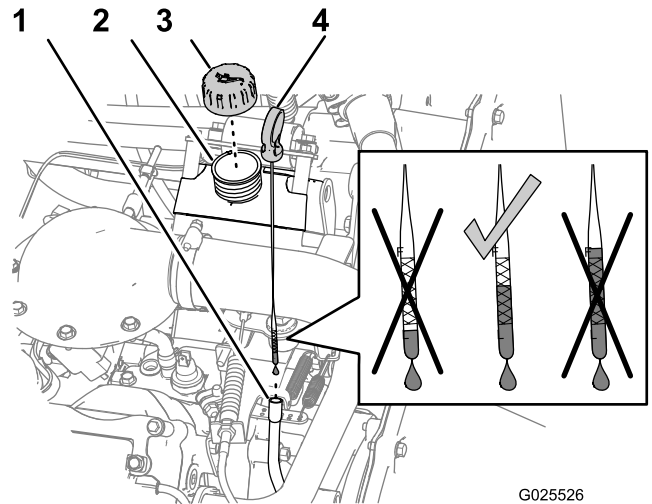

Figure 42
- Remove the dipstick and wipe it with a clean rag (Figure 42).
- Remove dipstick and check the oil level (Figure 42).
- If the oil level is low, remove the filler cap (Figure 42) and add enough oil to raise the level to the Full mark on the dipstick.
8. Install the filler cap onto the filler neck (Figure 42).
9. Firmly install the dipstick (Figure 42).